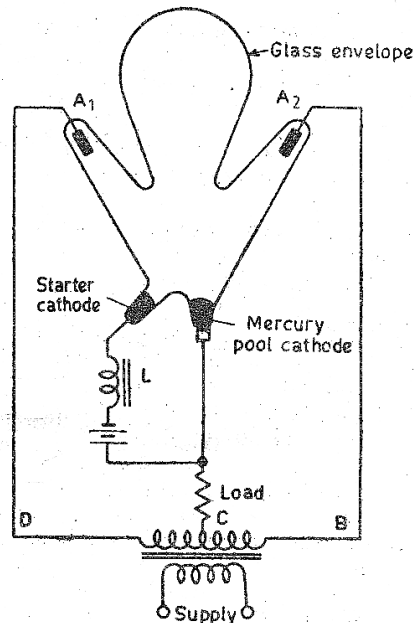

Fig. 57.1
**Marks (4)**
**Ans: Working of Mercury Arc Rectifier:** Mercury Arc Rectifier is shown in fig.57.1. Electron emission from the mercury pool becomes possible when a cathode spot is formed on the cathode-pool surface. The cathode spot shows itself as a bright point of light which moves over the mercury surface, the spot being initiated by small spark on mercury. The spark produces the first electrons and positive ions, if one of the anodes is positive, the electrons are attracted and produce additional ions which neutralize any negative space charge and an arc is established. The positive ion cathode sheath is very thin, so that the electric field intensity therein can reach the magnitude necessary for high-field emission. In this type of rectifier, the electron enters the arc through the cathode spot, which wanders on the surface of the pool of mercury. This motion is due to the forces exerted by the bombarding ions and the reaction of the vaporizing gas. The ionized mercury ions that are formed are neutralized at the glass surface of the envelope and condense on the walls. The evaporated mercury returns to